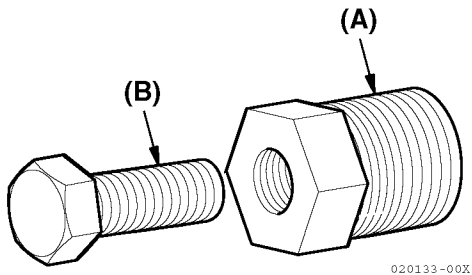

Figure 11
2. Install the puller (**Figure 11, (A)**) in the impeller.
3. Turn the jack screw (**Figure 11, (B)**) clockwise to remove the impeller from the pump body.